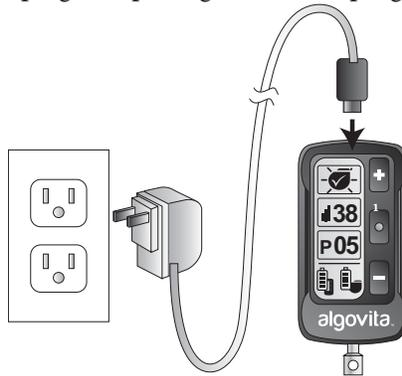

Figure 65. Connecting the AC power adapter
- Connect the AC power adapter to the Pocket Programmer (*Figure 65*) and plug the power adapter into a wall outlet.